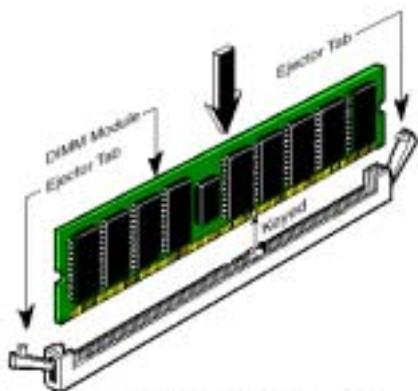

Figure 3-6. DDR DIMM module installation
Step 5. Insert the DDR DIMM module into the expansion socket as shown in the illustration. Note how the module is keyed to the socket. You can refer to Figure 3-6 for the details. ***This insures the DDR DIMM module will be plugged into the socket in one way only.*** Firmly press the DDR DIMM module into DDR DIMM socket, making certain the module is completely seated in the DDR DIMM socket.